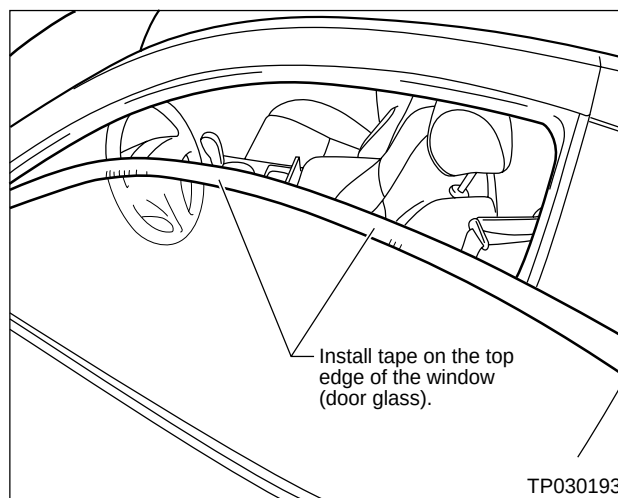

Figure 2
- a. Open the door and put tape on the top edge of the door glass (see Figure 2).